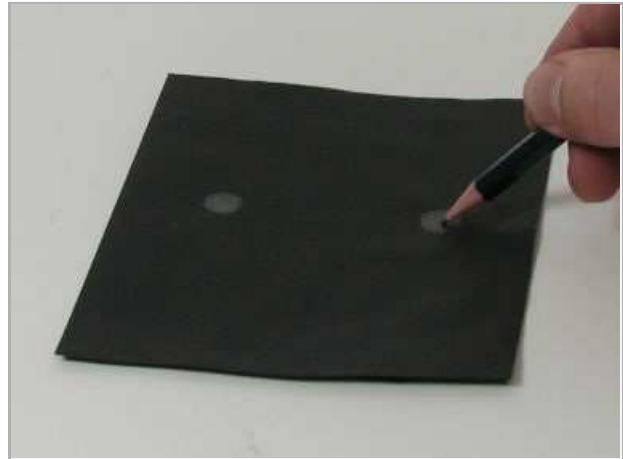

Fig. 9
- Accurately fill the marked areas with a soft pencil (Fig. 9). The graphite of the pencil creates better contact between the electrodes and the carbon paper so that, when applying a voltage to the electrodes, an electric field can be measured within the conducting carbon paper.